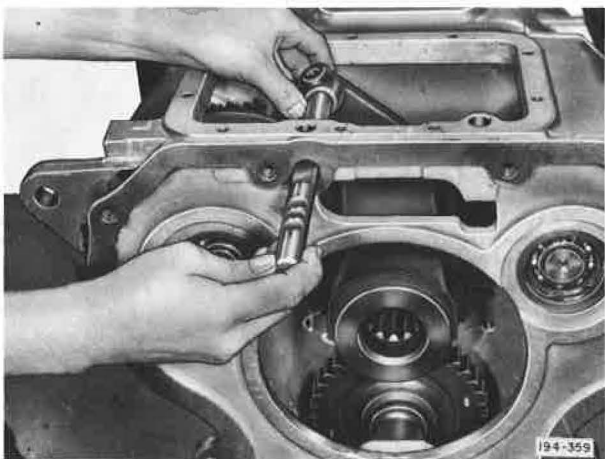

Figure 5-185. Installing Compound Shift Rail
30. Hold compound shifter fork in working position and install compound shift rail in case and fork. See Figure 5-185. Install shifter fork set screw and tighten to recommended torque.